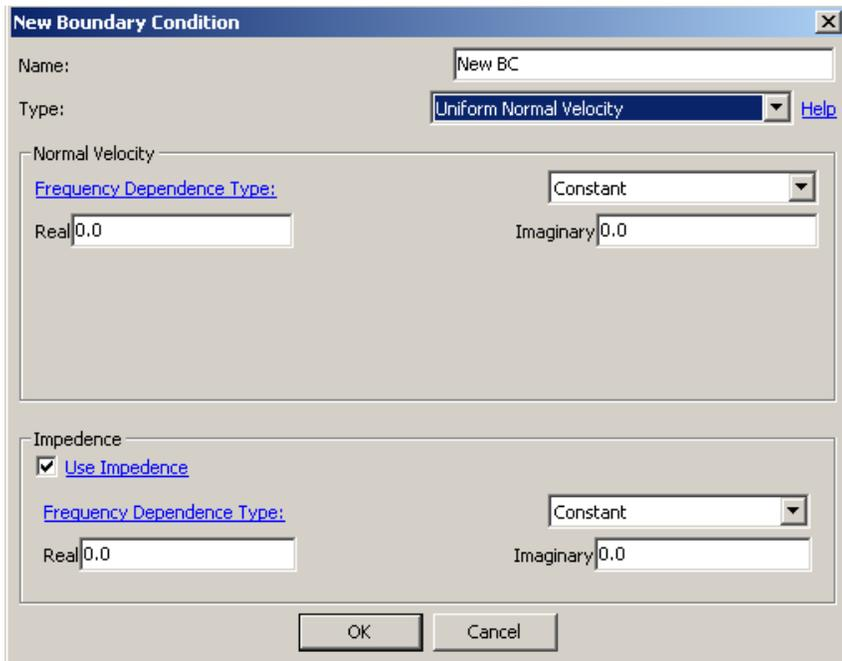

Figure 6.17 Uniform Normal Velocity BC.
This Boundary Condition is applied on the element where the normal velocity is uniformly distributed. There is no variation of normal velocity with position over an element. However, it can be defined to be dependent on frequency. (Figure 6.17.) The normal velocity values can be specified by selecting any of the frequency dependence types: *Constant*, *Table*, or *Script*. The user should be aware that the normal velocity defined here is in the direction of the **domain normal** (Figure 6.11). When *Use Impedance* option is disabled, the *Normal Velocity* defined in this boundary condition (BC) is considered to be the particle normal velocity ( $v_{ni}$ ). (Figure 6.17)